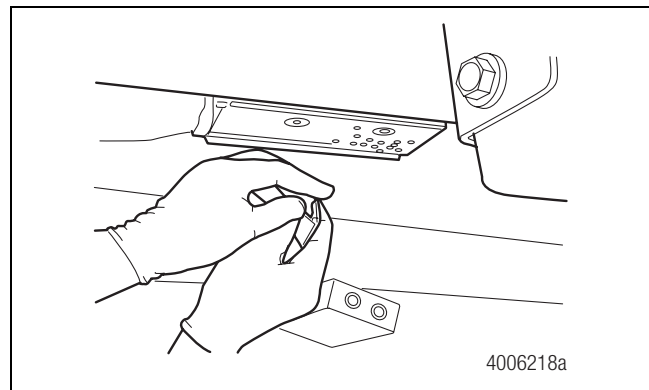

Figure 3
11. Remove and discard the rubber-coated seal plate. **Do not reuse this plate.** During installation, use the new seal plate included with the relay valve replacement kit. Figure 3.